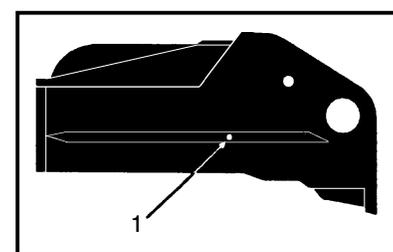

Figure 2
9. Separate the waste bin and drum unit sections from cartridge cover (4 plastic pins Figs. 2 & 3).